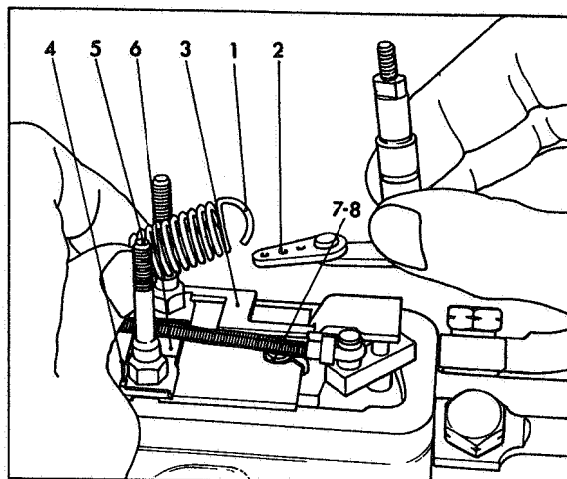

Fig 2 Dismantling throttle link
Unhook and remove governor spring (1) Fig 2 from idling spring guide and throttle shaft link (2). Remove idling spring and idling spring guide. Remove shut-off bar (3). Press down tabs on tab washers (4). Remove control cover studs (5), tab washers, keep plate (6), bracket screw and washer (7 & 8).